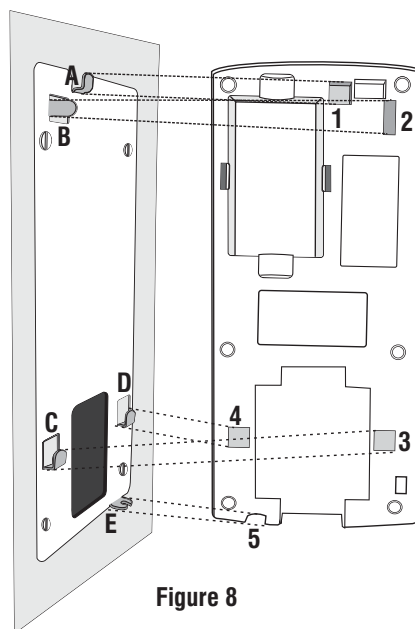

Figure 8
- Match the mounting hooks (A, B, C, D, E) on the plate with the respective mounting slots (1, 2, 3, 4, 5) at the back of the device. Refer figure 8.
- Use the M 3x6 screw provided to you to secure the bottom mounting slot on the plate. Match E to 5 as in figure 8.